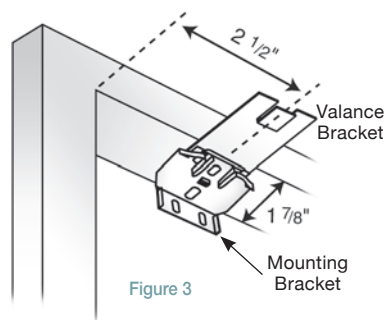

Figure 3
2. Mounting a flush headrail requires a flat surface with a minimum depth of 1 7/8" (Fig. 3). Fully recessing the shade with the valance requires a flat surface with a minimum depth of 3". Shallow mounting requires 3/4" minimum.